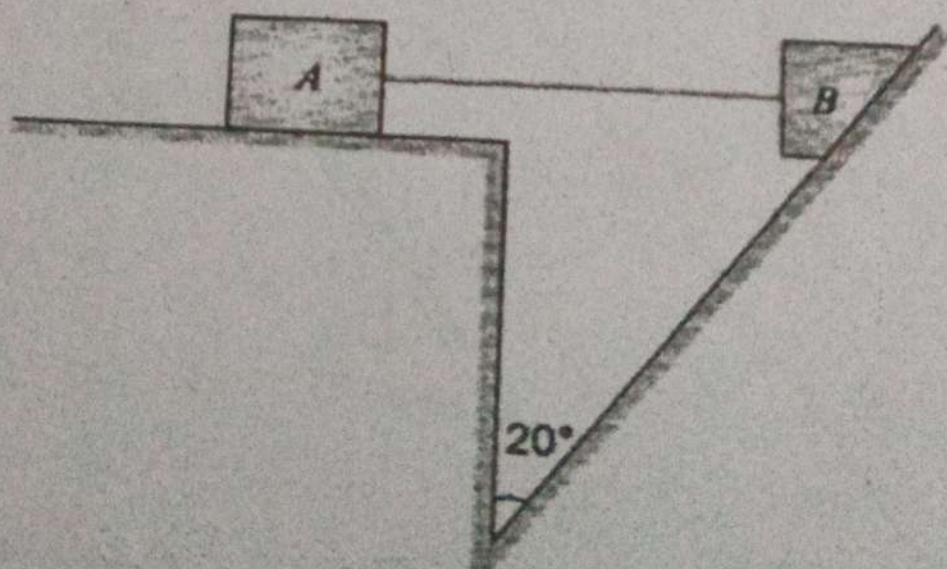

Fig. 6
1. Two blocks connected by a horizontal link AB are supported on two rough planes as shown in Fig. 6. The coefficient of friction on the horizontal plane is 0.4. The limiting angle of friction for block B on the inclined plane is 20° . What is the smallest weight W of the block A for which equilibrium of the system can exist if weight of block B is 5 kN ?